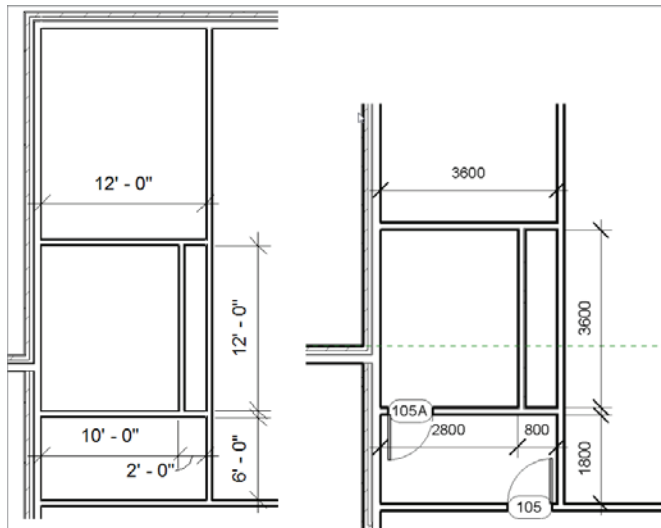

FIGURE 2.37 The lavatory at the west side of the building
The next step is to add the lavatories. These will show up at the west end (left side) of the building. Refer to Figure 2.37 for the dimensions, and follow along:
2. Look at your options, and create the lavatories shown in Figure 2.37. All of the dimensions are taken from the finish inside face.